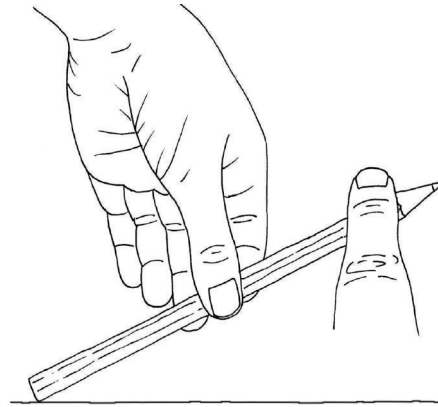

Figure 6
3. The fulcrum of the lever is at the left end of the pencil, where it rests on the desk. Where will the effort be in Figure 6? Where is the load?